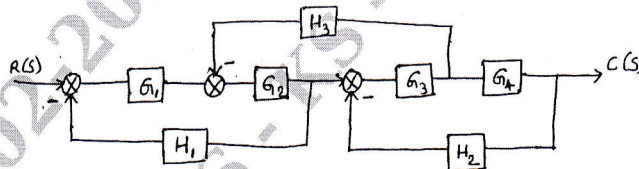

Fig. Q4(a)
- 4 a. Reduce the block diagram shown in Fig.Q4(a) and obtain C(s)/R(s). (10 Marks)
- b. Find the transfer function by using Mason's gain formula for the signal flow graph shown in Fig.Q4(b). (10 Marks)